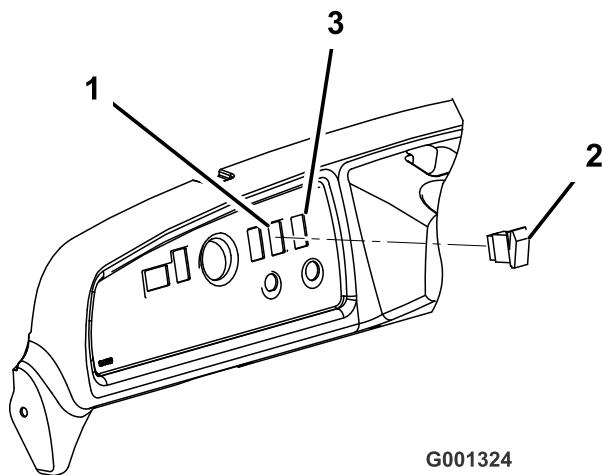

Figure 5
2. Plug the switch into the harness connector in the dash. Insert the switch into the hole in the dash (Figure 5).
1. Remove the plug from the hole in the right side of the dash (Figure 5).